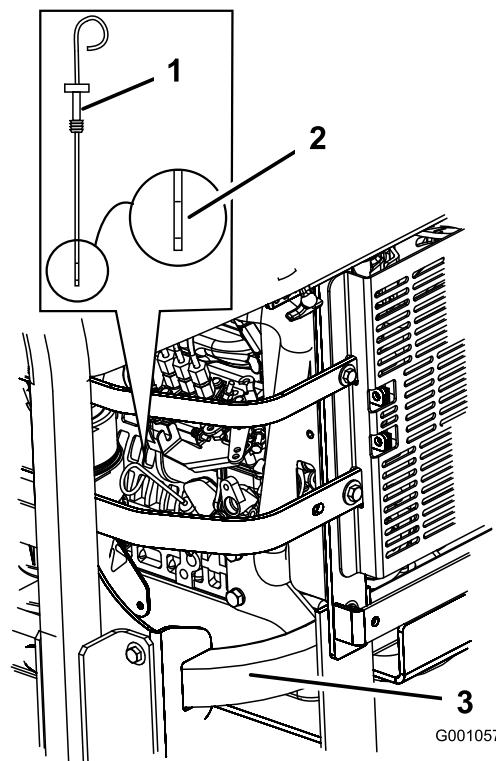

Figure 40
3. Clean around the oil dipstick (Figure 40) so dirt cannot fall into the filler hole and damage the engine.
4. Pull the oil dipstick out and wipe the metal end clean (Figure 40).
5. Slide the oil dipstick fully into the filler tube. Pull the dipstick out and look at the metal end (Figure 40). If the oil level is low, slowly pour only enough oil into the fill hole to raise the level to the full mark.